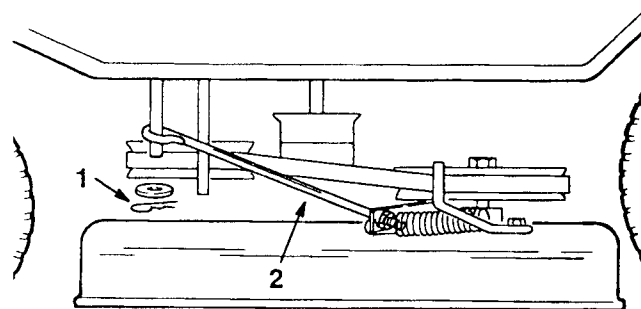

Figure 37
6. Remove the hair pin cotter and washer from the blade control arm on the left side of the mower (Fig. 37). Slide the rod off the arm.